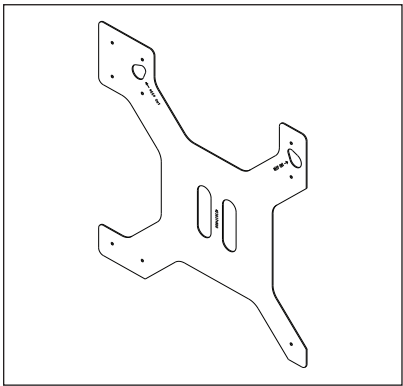

Figure 1: Structure Jig
- a. Use a structure jig (Daktronics part number 0S-4230372) and insert the alignment pins on the jig into the top row of holes on the wall tube. Refer to **Figure 1**.